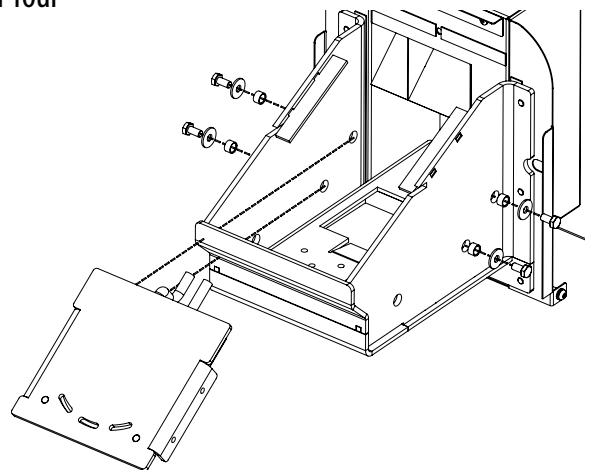

Fig. 21 Taking out the heating element unit together with a plate.
4. Now you can take out the heating element plate: unscrew further four bolts on the burning chamber lateral walls. Take out the heating element unit together with a plate (Fig. 21);